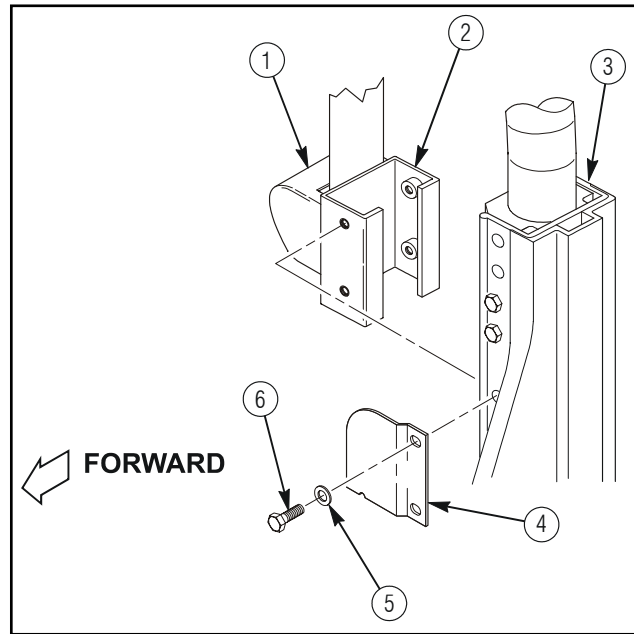

Figure 40
4. Apply 8030-01-025-1692 sealing compound to threads of four existing capscrews (6), and install left front lower seat belt bracket (2) and seat belt protector plate (4) on B-pillar (3) with four existing capscrews (6) and washers (5) as shown in figure 40. Tighten capscrews (6) to 21 lb-ft (28.5 N·m).